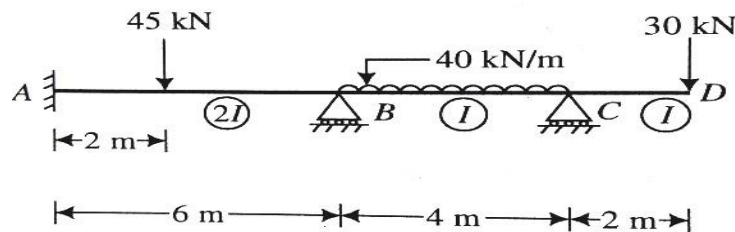

Figure 3.2
2. Analyze the continuous beam shown in Figure 3.2 by displacement method